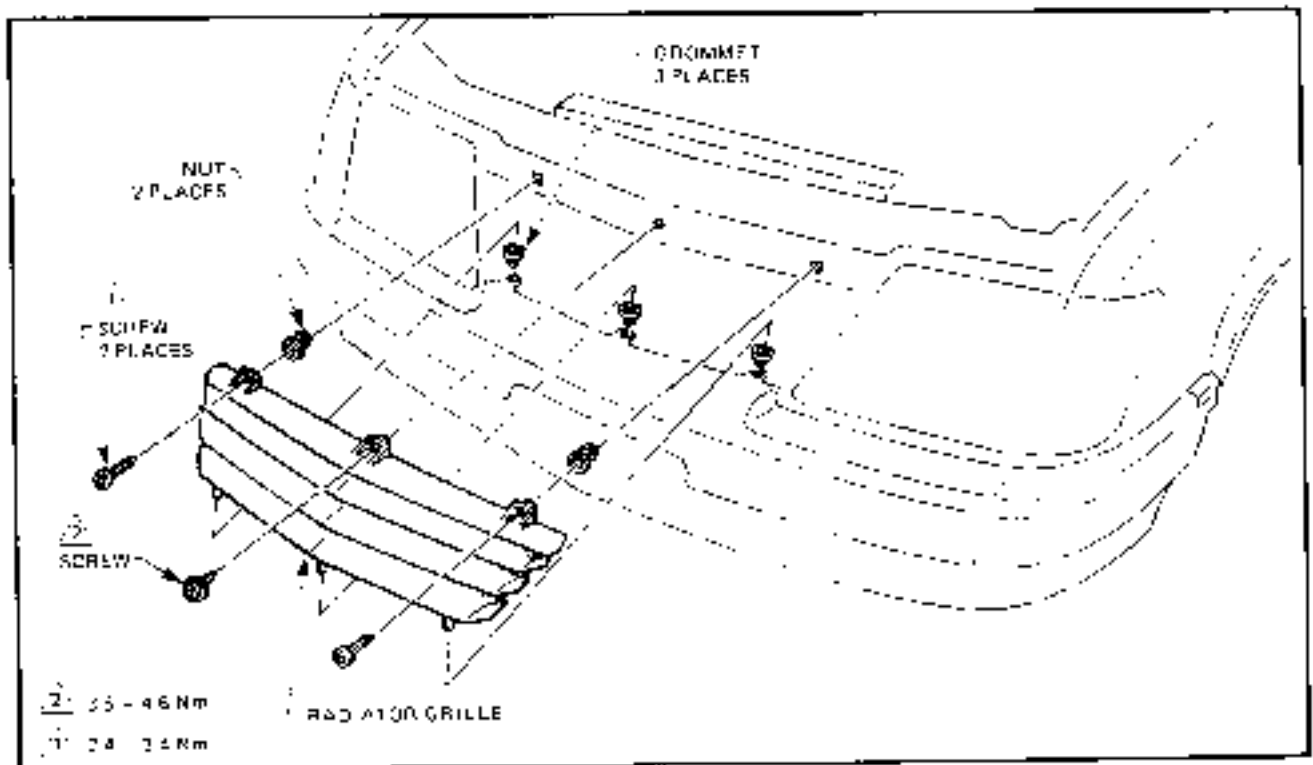

Figure 1C-1
1. With engine hood raised, remove screws securing grille to radiator upper support (refer Fig. 1C-1).